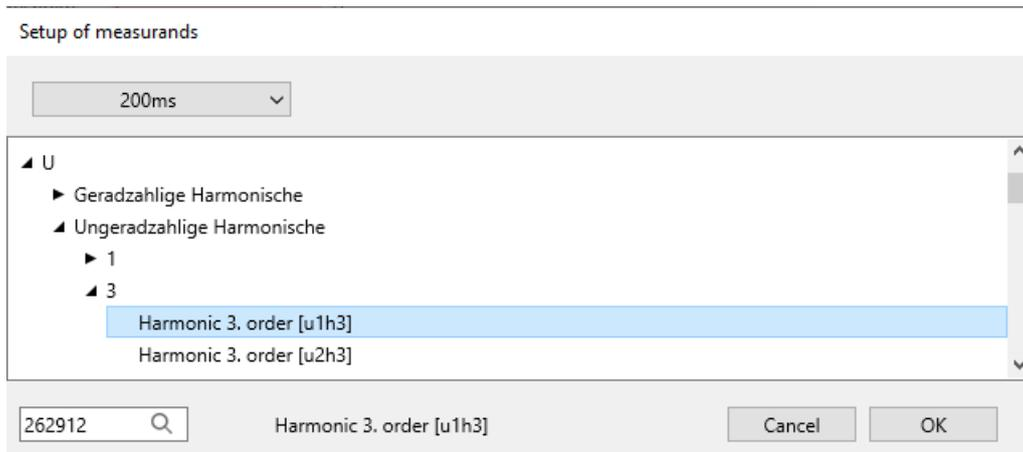

Figure 4: Setup of the measurands
After clicking into the field of the *Measurement-ID* a new window appears (2). All quantities, which can be supervised, can be picked in this setup (Figure 4). Firstly, the correct data class must be chosen with the drop-down-menu. The possible quantities will change depending on the data class. The quantities are grouped into frequency (F), current (I), voltage (U) and other (S). These groups are helpful to choose the concrete measurand. The search mask can only find the Measurement-IDs. It is not possible to search for the English descriptions.